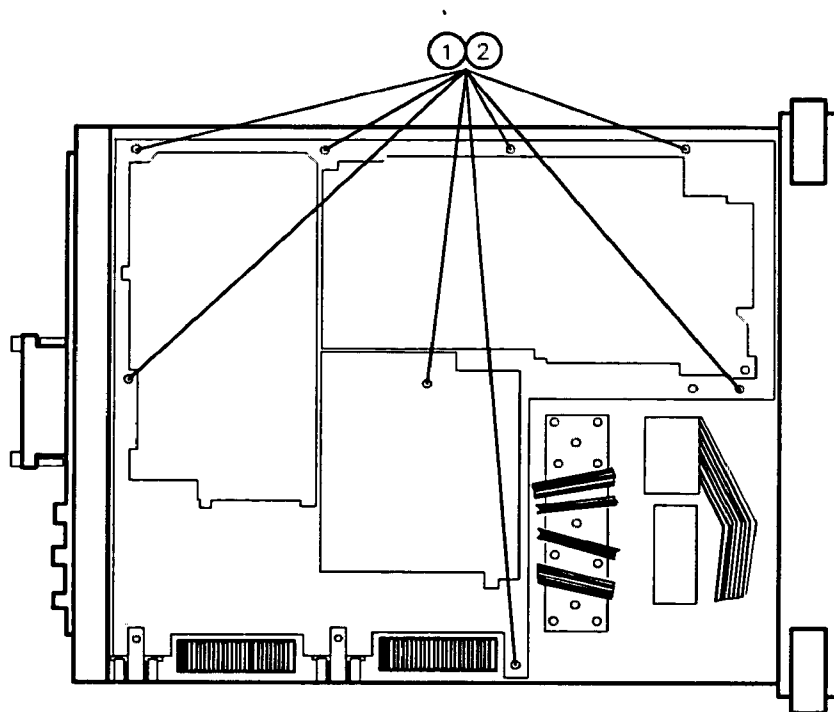

Figure 3-21. A14 and A15 Assembly Removal
3. Remove the eight screws and washers holding the A14 and A15 assemblies to the bottom of the analyzer. These screws are labeled 1 and 2 in Figure 3-21.
5. Secure the assemblies using the eight screws and washers removed in “Removal” step 3. Place a washer (2) on the appropriate screws. See Figure 3-21.